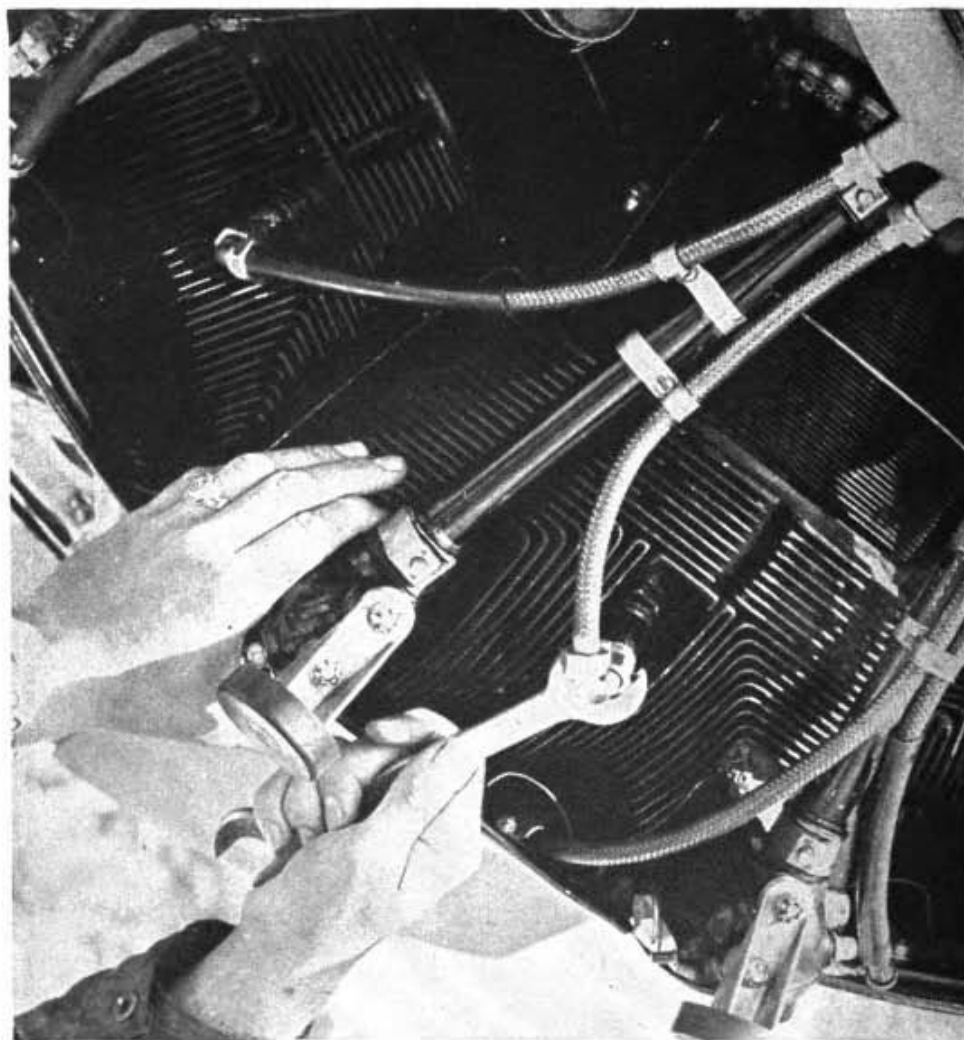

Figure 56. Tightening loose spark plug connection.
a. Ignition and electrical system. The terminal connections of unshielded plugs and the elbow terminals and shielding nuts of shielded plugs are examined for proper tightness. (See fig. 56.) Care must be exercised to tighten only to a snug fit. The barrels of shielded plugs are checked for looseness. If found to be loose, they are tightened with a special wrench. On airplanes that operate at high altitudes, the spark plugs are removed and examined for burned electrodes. The gap clearances should also be checked and reset. (See fig. 57.)